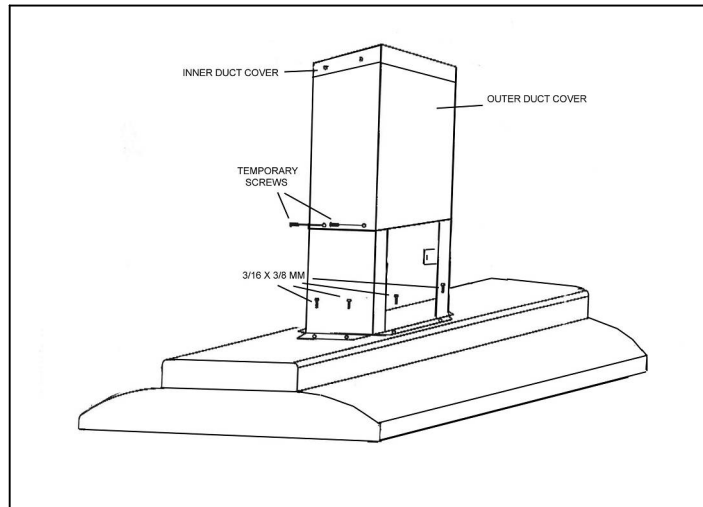

Figure 6
- Place temporary screws to hold the duct cover up. Install the hood as shown in Figure 6.
- Use eight (3/16x3/8 mm) screws (provided) to secure hood to telescopic stack. Make sure to tighten screws securely. Refer to Figure 6.